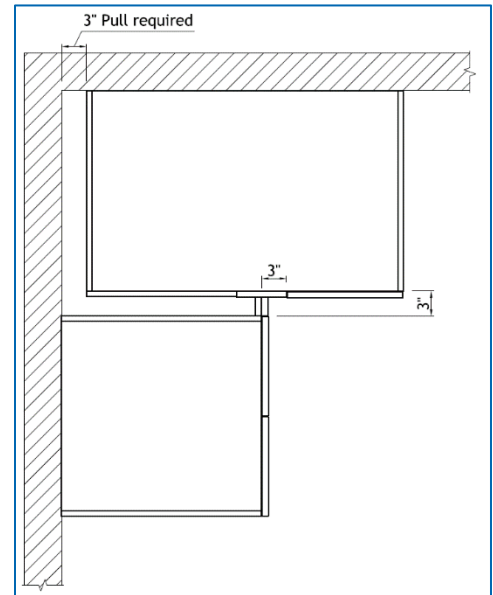

Figure 4
- Note that if you are using a blind wall cabinet, then make sure you leave the correct pull from the wall before you place the cabinet. As standard Decor blind cabinets require a 3" pull but verify with the elevations. *(figure 4)*